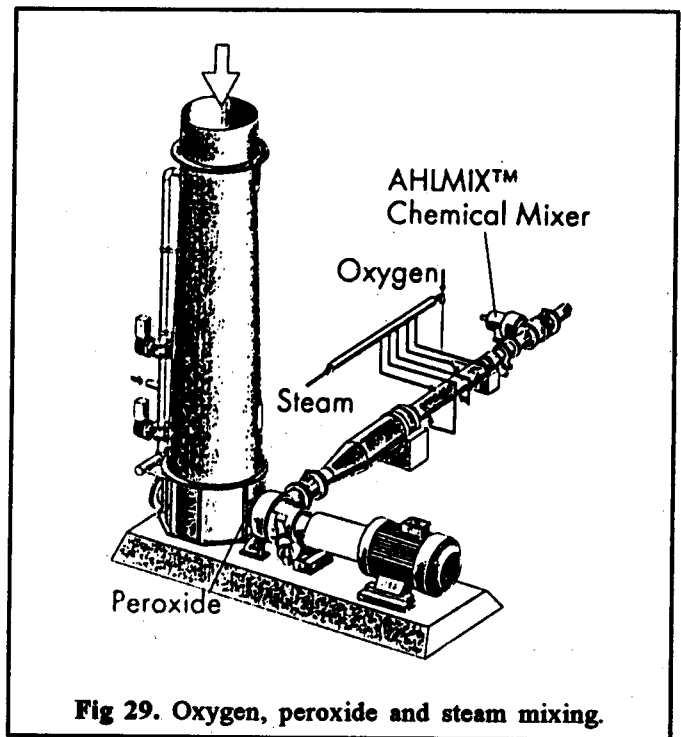

Fig 29. Oxygen, peroxide and steam mixing.
In the AHLMIX™ Chemical Mixer, oxygen and steam are mixed efficiently into the stock (Fig.29).
- Fig.29. **Oxygen, peroxide and steam mixing.**